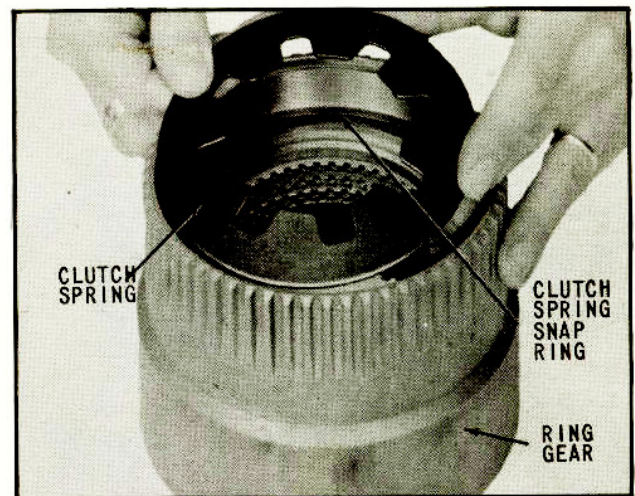

Fig. 33 Installing Clutch Spring
24. With the concave side of the clutch spring down, install in ring gear, as shown in (Fig. 33). Assembly is complete when the clutch spring is seated firmly and squarely on clutch snap ring.